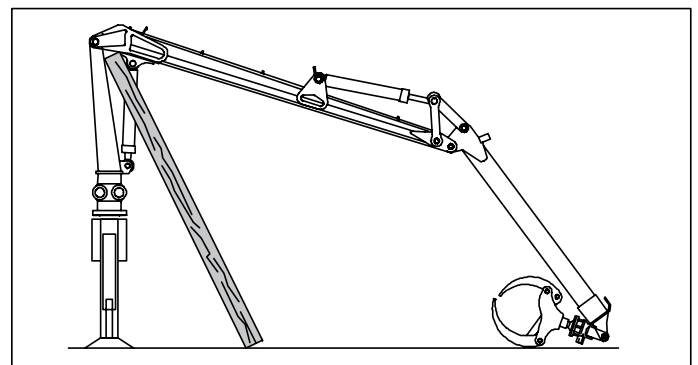

Fig. 2. Lowering the booms
2. Lower the booms as shown in fig. 2.
4. Make sure that the crane cannot lean over. Fig. 2.